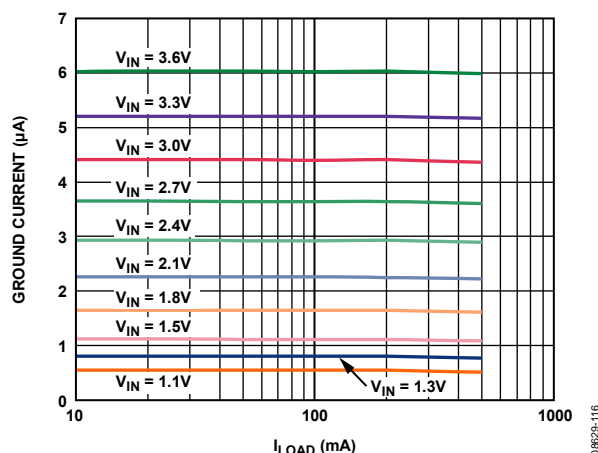

Figure 16. Ground Current vs. Load Current, Different Input Voltages
The major source for ground current in the ADP194 is the 4 M Ω pull-down resistor on the enable (EN) pin. Figure 16 shows typical ground current when $V_{EN} = V_{IN}$ and V_{IN} varies from 1.1 V to 3.6 V.